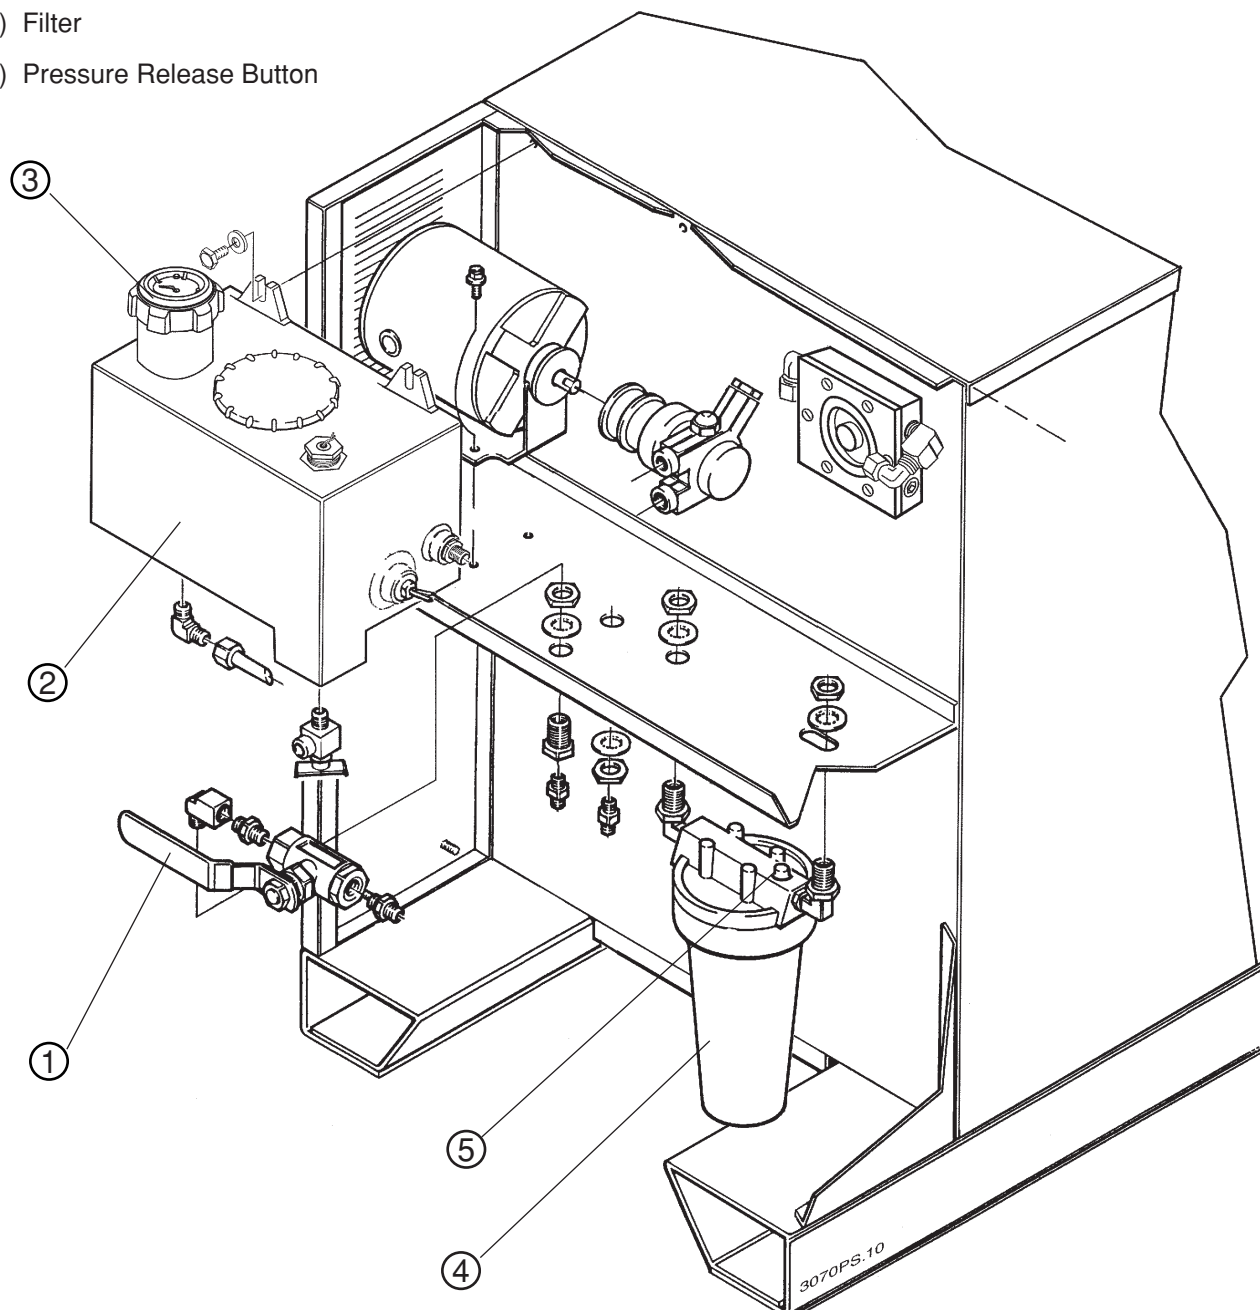

Figure 3-33 Filling Coolant System
3. At the rear of the power supply, ensure the coolant shutoff valve (1, Figure 3-33) is open and unscrew the filler/vent cap (3) on coolant tank (2). Fill tank with 8.5 quarts (8 liters) of coolant.
5. Turn on the power supply by depressing and holding the POWER ON (I) pushbutton switch/ indicator (PB1/LT1). The **COOLANT FLOW** LED will remain out until the coolant has pushed all of the air out of the torch cooling hoses and the coolant returns to the tank. This process may take up to 60 seconds.
6. Locate the red button (5, Figure 3-33) on top of the coolant filter (4) at the rear of the power supply. Press the button until a little coolant comes out and no air bubbles are seen in the clear filter housing.
7. When the **COOLANT FLOW** LED illuminates, release the **POWER ON (I)** pushbutton (PB1). The green **POWER ON** indicator (LT1) should light, indicating that the system is operating normally.